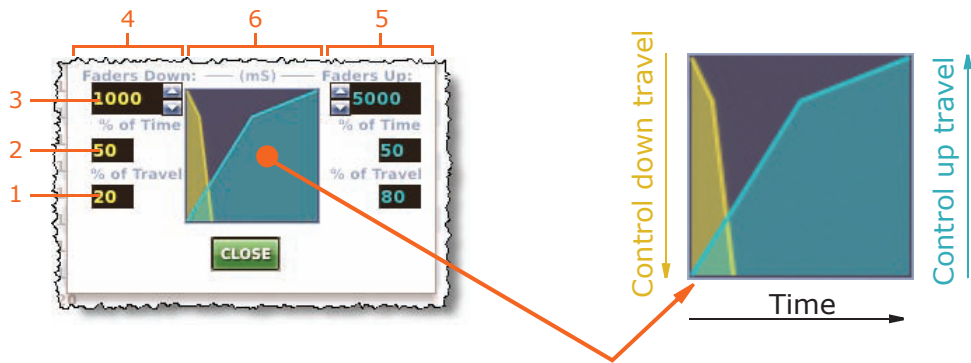

Figure 26: Crossfade set up section
8. In the crossfade set up section (see Figure 26 "Crossfade set up section"), set up the crossfade parameters, such as time, % of travel etc.